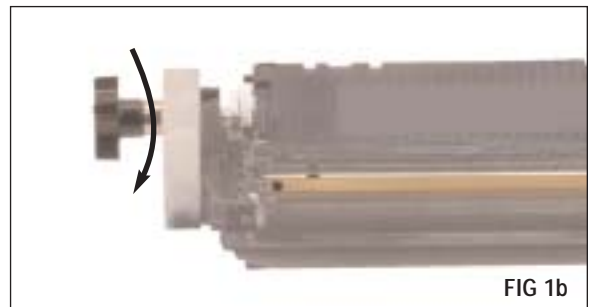

FIG 1b
- Rotate the developer roller by rotating the uppermost gear in the gear train, moving the top of the gear towards the rear of the hopper. The rotation of the developer roller will draw the toner into the seal area and distribute it evenly across the surfaces of the developer roller and adder roller. Continue rotating the roller until all of the toner has been drawn into the seal area. (See Figure 1b)